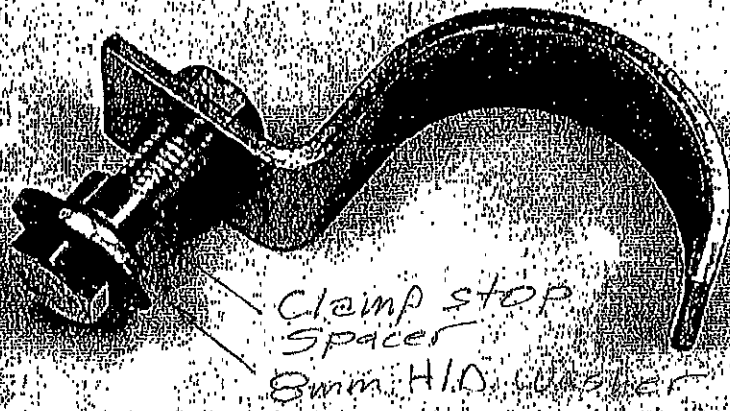
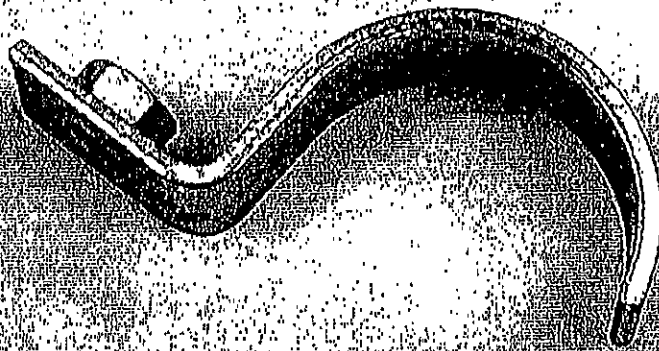

Fig. 1
Fig. 2
2. The way the plates overlap start with the rearmost plate (855R-U) and move forward. To help holding this plate up while installing the mounting hardware use a couple of the M6 X 20 flanged hex bolts in the outboard front two mounting points. Note, these bolts are in the hardware packet for the next plate (857M3-U). Now install the rearmost mount using the 700-06 nut plate M8 X 25 hex, 8mm H/D washer and 700-124 clamp stop spacer. Note that this arrangement is used on all of the mounting clamps. The reason for the clamp stop spacer is to be able to get a full torque on the bolt. Without it the UHMW plastic is so soft one could inadvertently drive the bolt and washer right through the plate. Refer to fig. 1 for the clamp, clamp stop spacer and washer configuration. The 700-06 nut plate sits on top of the frame just above the mounting hole in the plate. Leave this mount a little loose, in fact you want to leave all of the mounts a little loose on all the plates until they're all installed. Now referring to the hardware placement guide install the 3) clamps. The size clamp used in each location is stamped on the clamp (fig. 2). To install the center 'A' clamp feed the clamp through the hole in the plate just behind the slot. Note, the clamps always go over the frame tube that is perpendicular to the clamp mounting slot in the plate. Also note this clamp uses a longer bolt (M8 X 30) and clamp stop spacer (700-158).